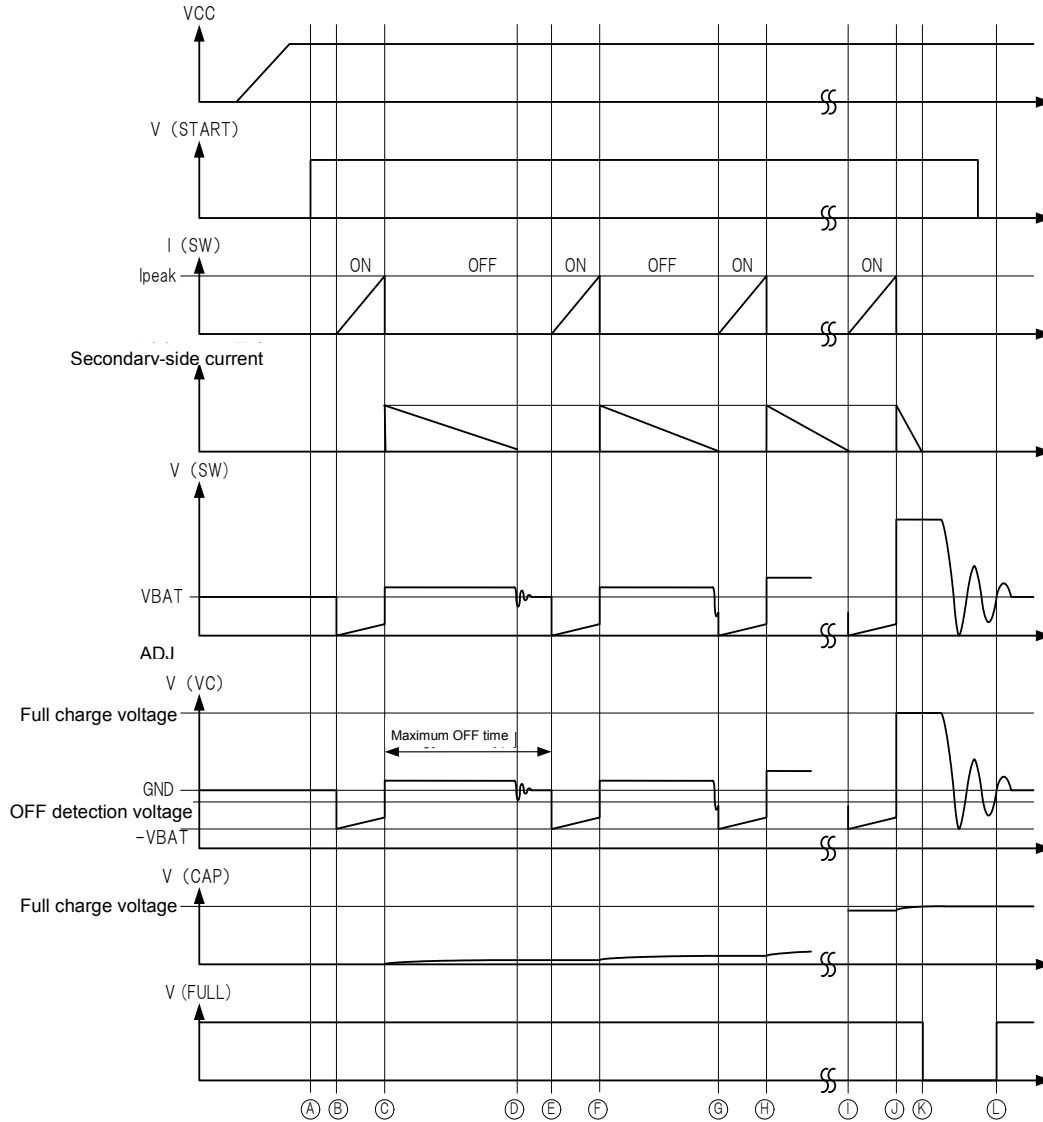

Fig 34. Timing Chart 2: Switching Operation
The switching operation of this IC is shown in Fig.34 Timing Chart 2.
If the START pin is set to "H", all internal circuits are reset, the internal PowerTr is turned ON. (See Fig 34. Time ④→⑤.) While the internal PowerTr is turned ON, a current is passed into the SW pin. When the current specified at the RADJ pin voltage is reached, the PowerTr is turned OFF. (See Time ⑥ in Fig 34.) The time  $t_{ON}$  when the PowerTr is ON is indicated as follows:
When the energy release to the transformer secondary-side is completed, the VC pin voltage and the SW pin voltage produce resonance by the parasitic capacitance and the transformer inductance. (See Time ④ in Fig 34) At this time, unless the VC pin voltage becomes the GND voltage or less shown, the PowerTr remains OFF till the maximum OFF time is reached. (See Time ⑤ in Fig 34) As soon as the OFF detection voltage or less is reached, the PowerTr is turned ON. (See Time ⑥ in Fig 34) The time,  $t_{OFF}$  when the secondary-side releases energy is represented by the following equation:
When it is detected that the internal PowerTr is left OFF for over the maximum OFF time specified in the electrical characteristics, the PowerTr is forced to be turned ON. This occurs unless the VC pin voltage becomes the OFF detection voltage specified in the electrical characteristics or less. (See Time Ⓒ in Fig 34)
VC pin node is divided by between transformer Secondary node and Fast recovery diode anode side by resistor  $R_{FB1}$ ,  $R_{FB2}$  and  $R_{FB3}$ . When VC pin voltage reach until full charge voltage as Fig.34 timing chart ①~④, charge is stopped.